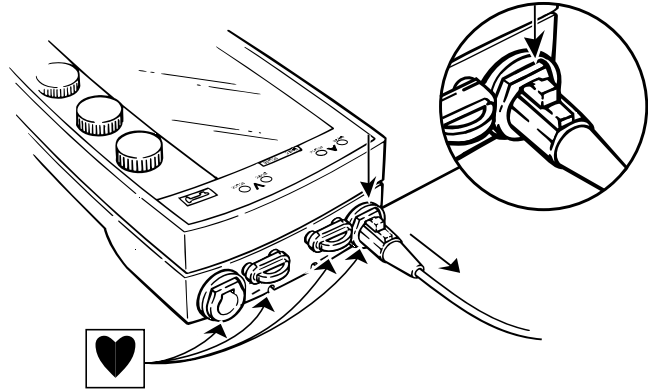

Figure 4-4. Disconnecting the Model 5433A or Model 5433V Patient Cable from the Model 5388 Temporary Pacemaker.
1. To disconnect the patient cable from the device, press the connector release button on the patient cable plug (see Figure 4-4).